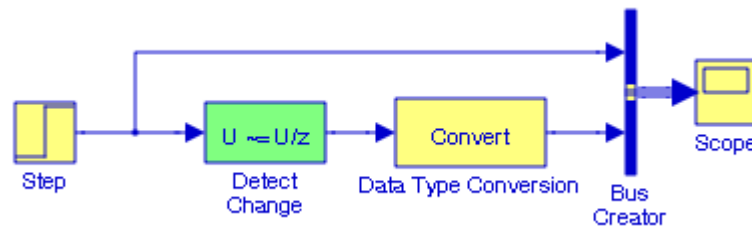

Figure 6.19. Model for Example 6.14
The model is shown in Figure 6.19 and the input and output waveforms are shown in Figure 6.20. In Figure 6.19, the **Detect Change** block value is set to 0, and the **Convert** Block is used to convert the output signal of the **Detect Change** block from uint(8) to double. The waveforms in Figure 6.20 indicate that the output waveform is 0 for the interval $0 < t < 1$ because the step function is also 0 during this interval. At $t = 1$ the step function jumps to 1 and thus the output assumes a non-zero value, in this case 1. For $t > 1$, there are no further changes in the input signal and thus the output drops to 0 indicating that the input signal equals its previous value.